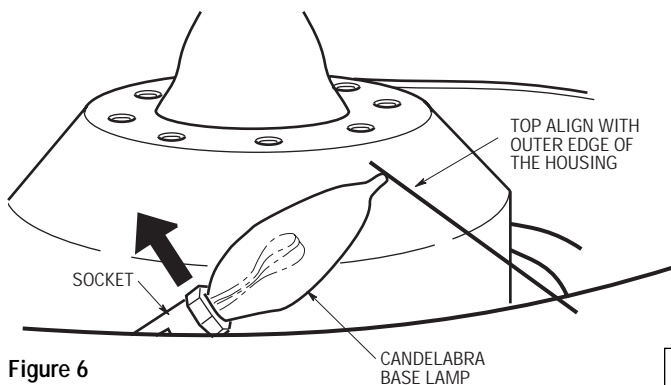

Figure 6
6. Screw in four 40-watt (maximum) candelabra base lamps in the housing sockets (Figure 6). Grasp the sockets and pivot them until the lamp bulbs are even with the outer edge of the housing as shown. This will provide the optimum lighting effect.